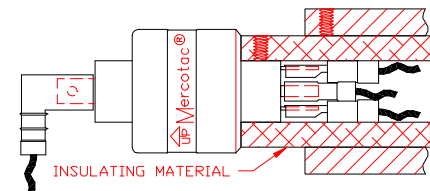

Fig 6 Thermal Insulation
8. The connector contains plastic materials, which are sensitive to heat. Over-heating will cause reduced life or connector failure. Provide thermal insulation where necessary to prevent temperature of the unit from exceeding 140°F (60°C). <Fig 6>